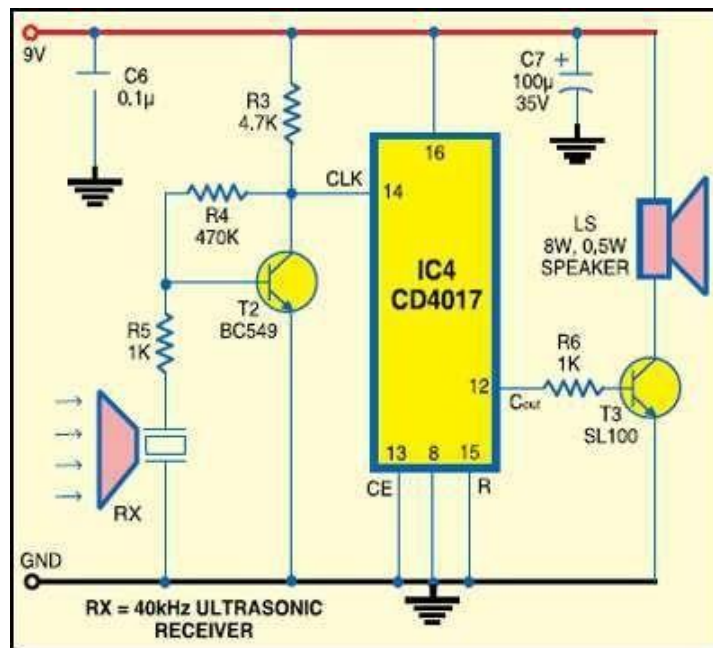

Figure 29 : Receiver Circuit
The transmitter circuit works off 9-12V DC. The receiver circuit (Fig.29) is built around a single decade counter IC4 (CD4017) and a few discrete components. To check the working of the transmitter, it is necessary to down-convert the 40kHz signal into 4kHz to bring it in the audible range. By using the receiver, the 40kHz ultrasonic transmitter can be tested quickly. The receiver's transducer unit (RX) is kept near the ultrasonic transmitter under test. It detects the transmitted 40kHz signal, which is amplified by the amplifier built around transistor BC549 (T2). The amplified signal is fed to decade counter IC4, which divides the frequency to 4 kHz. Transistor T3 (SL100) amplifies the 4kHz signal to drive the speaker.